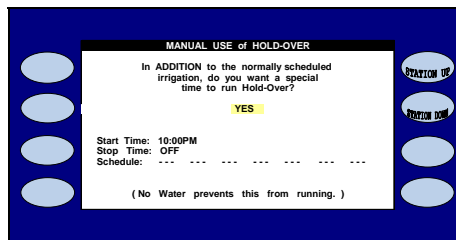

Figure 10.12
2.  Press the **PLUS** or **MINUS** keys to select whether or not you want to use Hold-Over. If YES is selected, the screen will change to reveal the set up parameters (Figure 10.12).